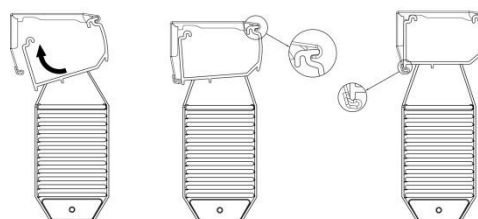

Figure 2
i) Insert headrail into mounting brackets (Figure 2). For proper installation, start by attaching the front rail to the bracket, then push back up until the headrail clicks into the brackets.